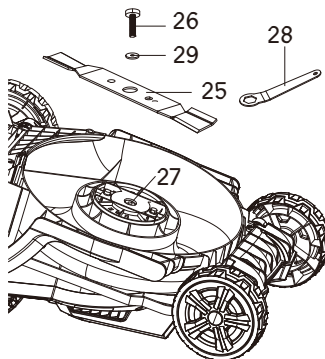

FIG.14
4. Loosen the hex bolt counterclockwise using the delivered hex wrench and remove it together with the washer and the cutting blade (Fig.14).